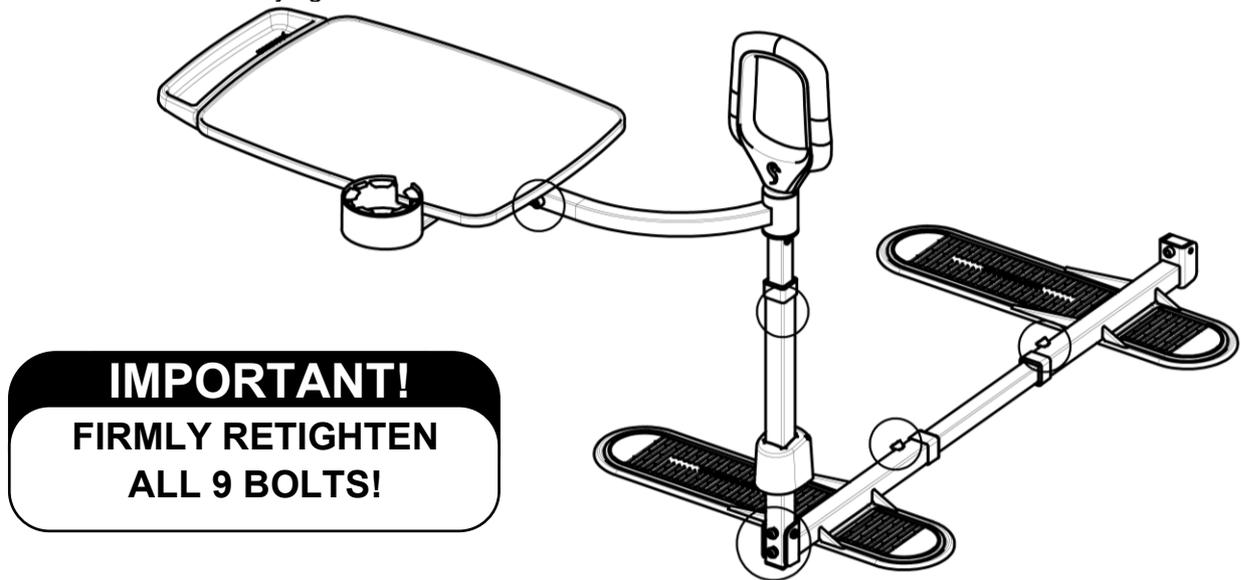

FIGURE 32
32. Ensure all 9 Bolts are firmly tightened as shown in *FIGURE 32*.